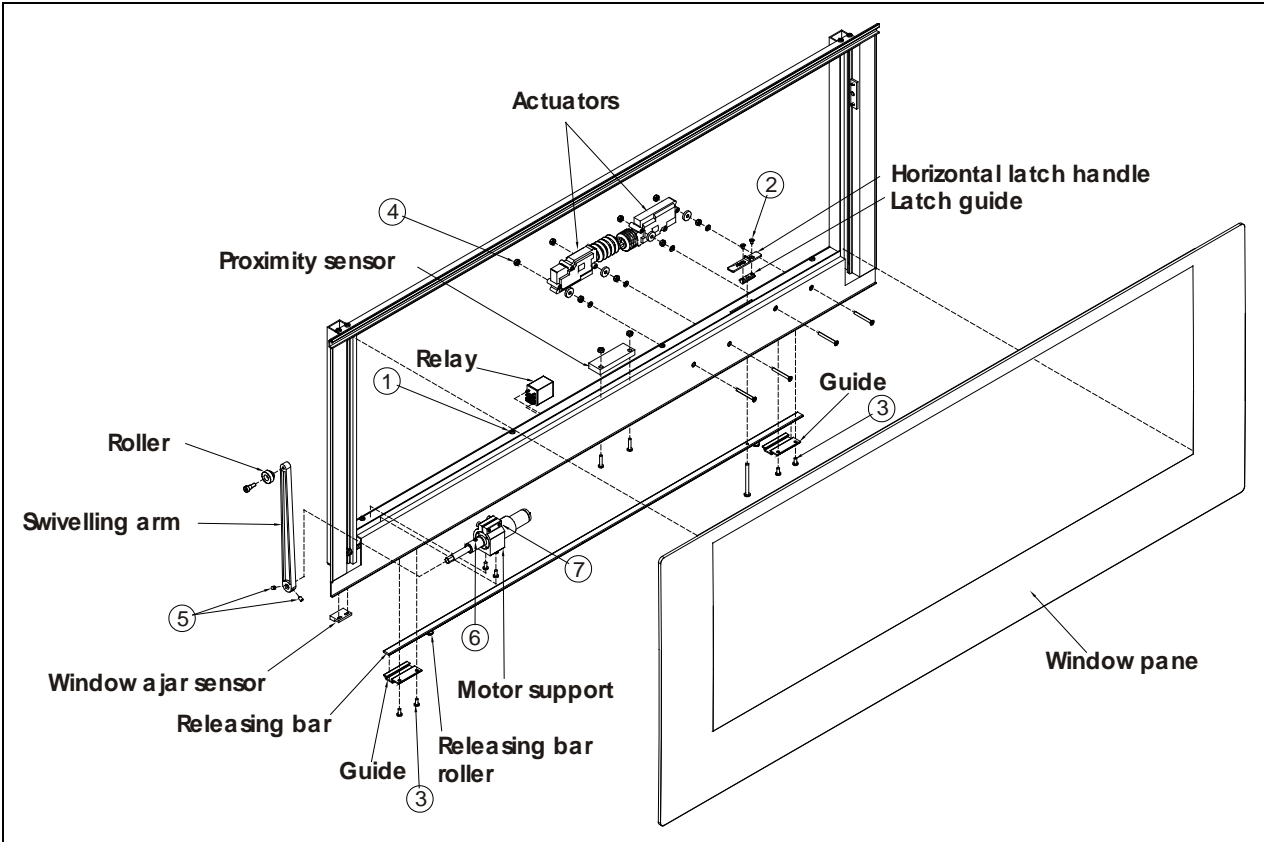

FIGURE 48: ELECTRIC AWNING WINDOW EXPLODED VIEW (SASH)
4. Loosen the set screws #5 (Figure 48) (rotate the arm to get to the second set screw) and disengage the swiveling arm from the motor shaft extension.